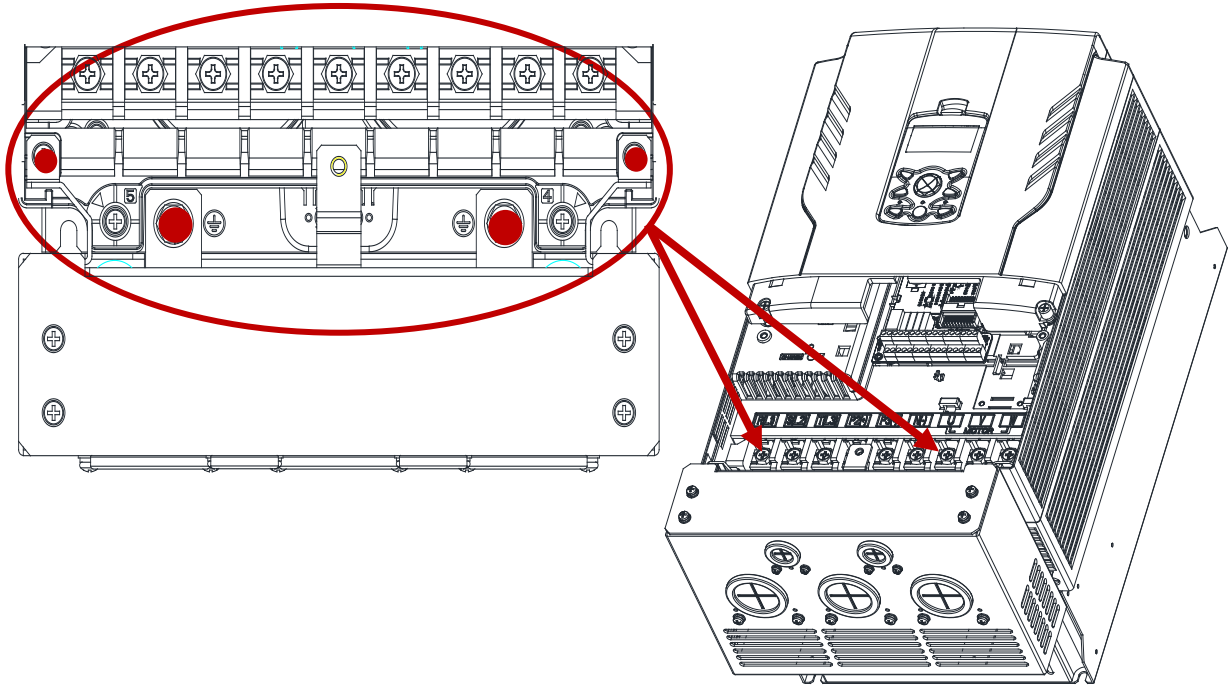

Figure 14. Install
- Fasten the Conduit Option to fit on the ground terminals and both ends (4points) of the product using the prescribed bolt as shown in the Figure 14.